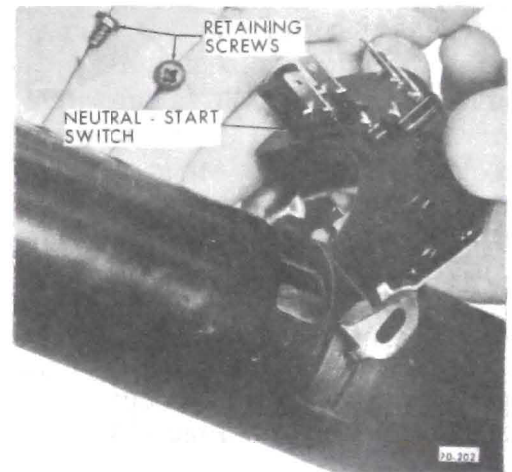

Figure 90-118 Removing or Installing Switch
2. (Automatic Transmission) Remove the two screws holding the neutral-start switch and remove switch. See Figure 90-118.
(Manual Transmission) Remove the two screws holding the back-up switch and remove switch. See Figure 90-118.
6. (Automatic Transmission) Install the neutral-start switch, making certain the proper screws are used. See Figure 90-118.
(Manual Transmission) Install back-up switch, make certain only the proper screws are used. See Figure 90-118.